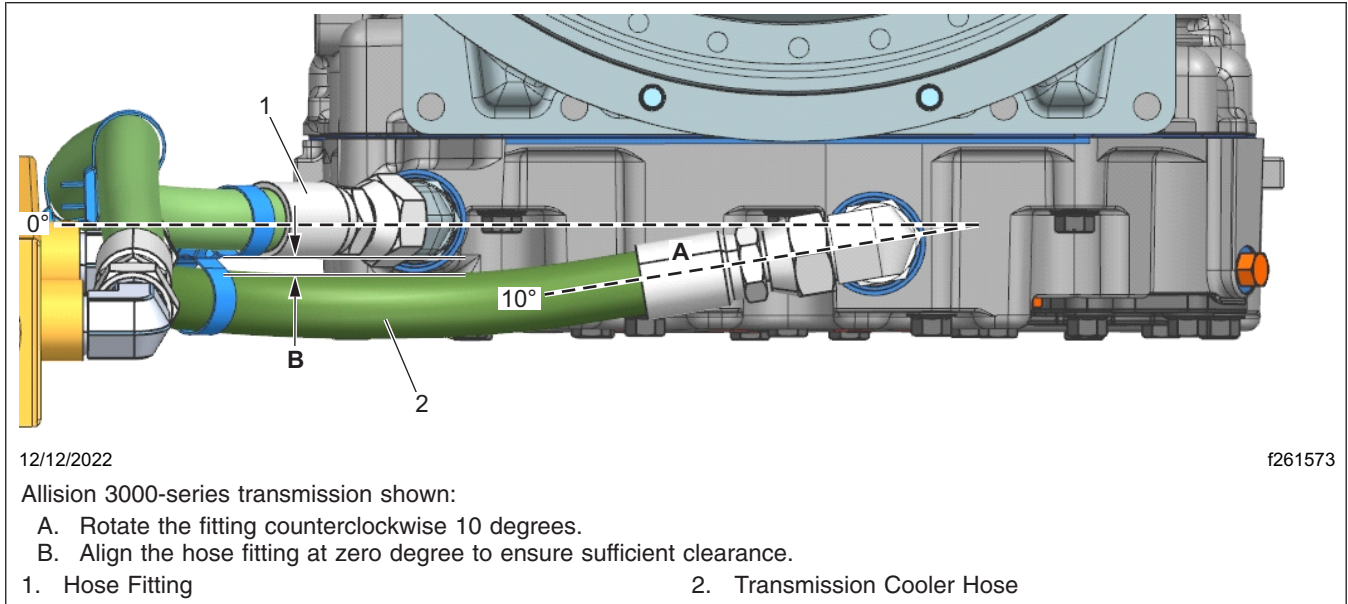

Fig. 6, Maintaining Clearance between the Hose and the Hose Fitting
12. If necessary, loosen the transmission cooler hose fittings at the transmission, then position the hoses to maintain clearance between the hose and the hose fitting as shown in **Fig. 6**.